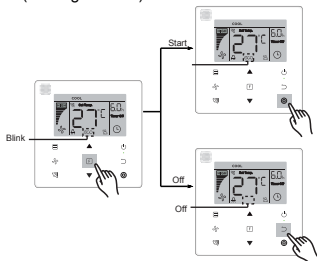

Figure 6.14
- Turn on/off the **"ECO"** function: press **[F]** (Function) button to switch to the **"ECO"** function ("**eco**" blinks), and press **[Enter]** (Confirm) button to turn on the function or **[Cancel]** button to turn off the function (see Figure 6.14).